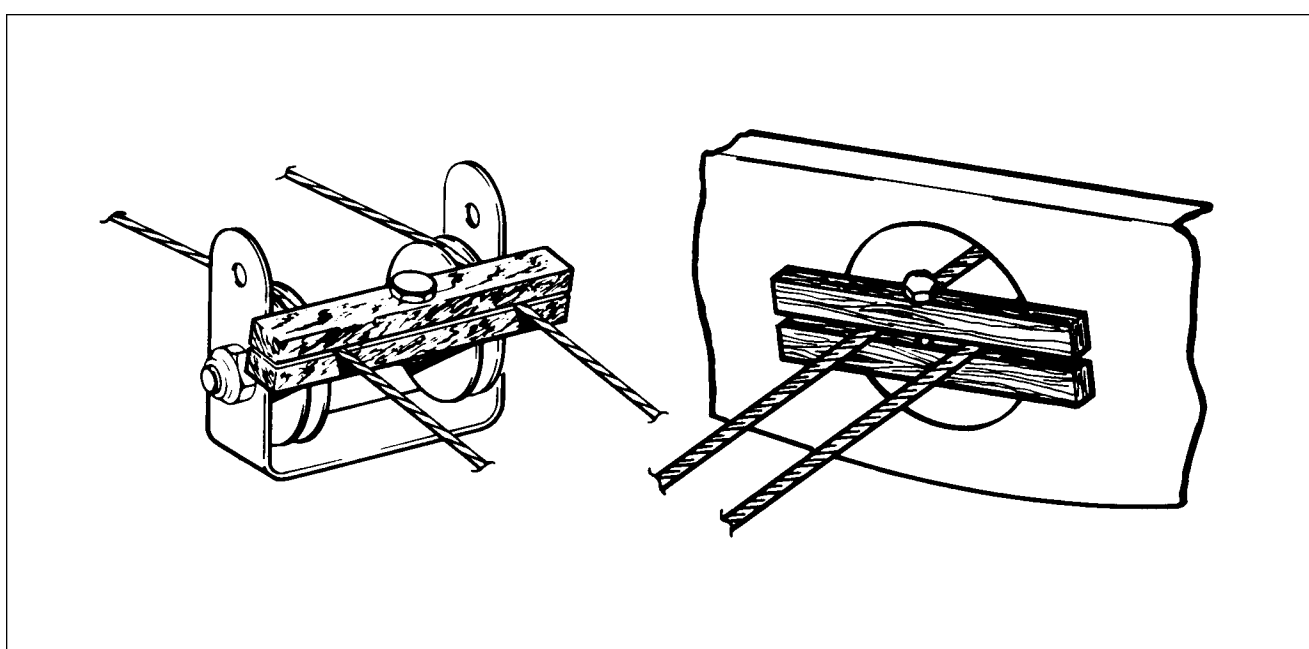

Figure 4-3. Methods of Securing Control Cables
- d. Install cable blocks as illustrated in Figure 4-3 on the stabilator trim control cable at the first set of pulleys forward of the cable turnbuckles to prevent the forward cable from unwrapping.